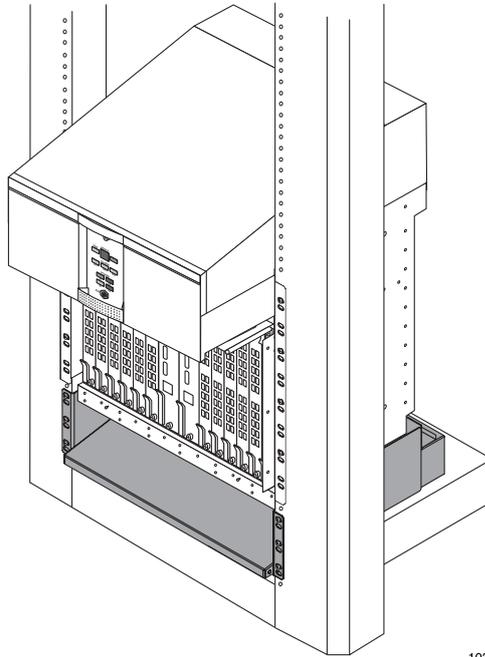

Figure 10 Positioning the Lower Air Ramp
1. Position the air ramp just below the SmartEdge 1200H chassis so that the screw holes in the air ramp mounting brackets are aligned with the screw holes in the rack just below the chassis; see Figure 10.